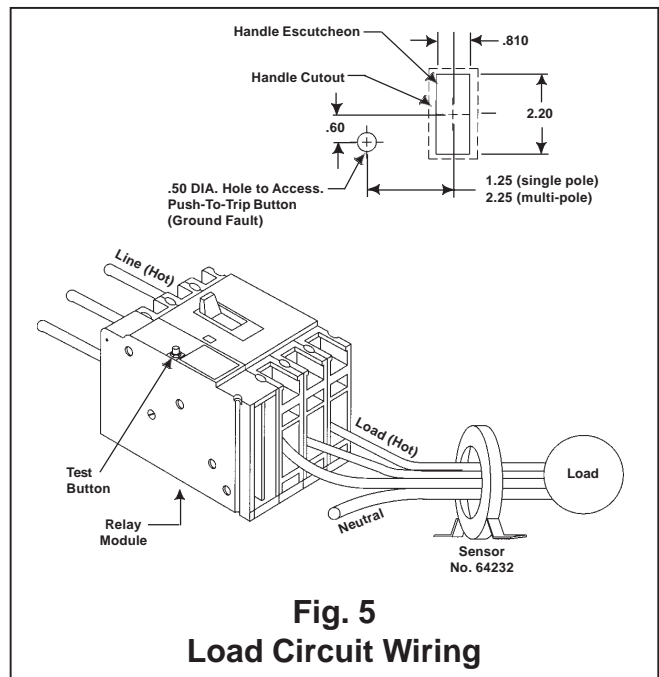

Fig. 5
- C. Connect load circuit wiring as shown in Figure 5.
D. With the 120 VAC control source energized, depress the test button (Fig. 5) on the face of the relay. The breaker should trip immediately. Reset by moving the breaker handle to the full "OFF" position, then to the "ON" position. The assembly is now fully operational. Periodic retesting is recommended to verify continued protection. A convenient test record card is provided that may be attached to the enclosure trim mounting screw.
NOTE: Access to ground fault relay "Push to Trip" button may be necessary. See Figure 5.